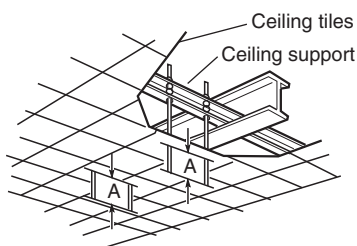

Fig. 3-18
- Use existing ceiling supports or construct a suitable support (Fig. 3-18).